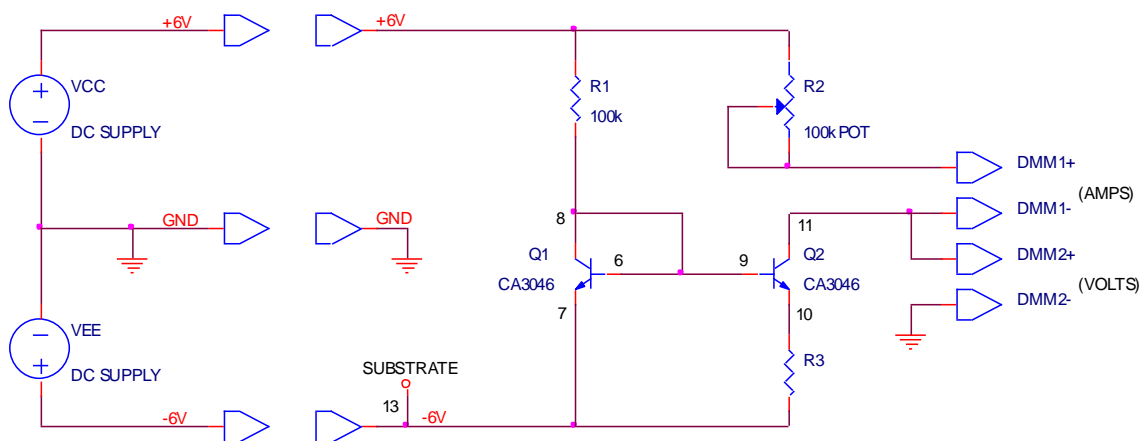

Figure E3.2a
**Set-Up** On the solderless breadboard construct the circuit of Fig. E3.2a using the following components:
(a) Calculate the output resistance of the reducing Widlar current source of Fig. E3.2a.